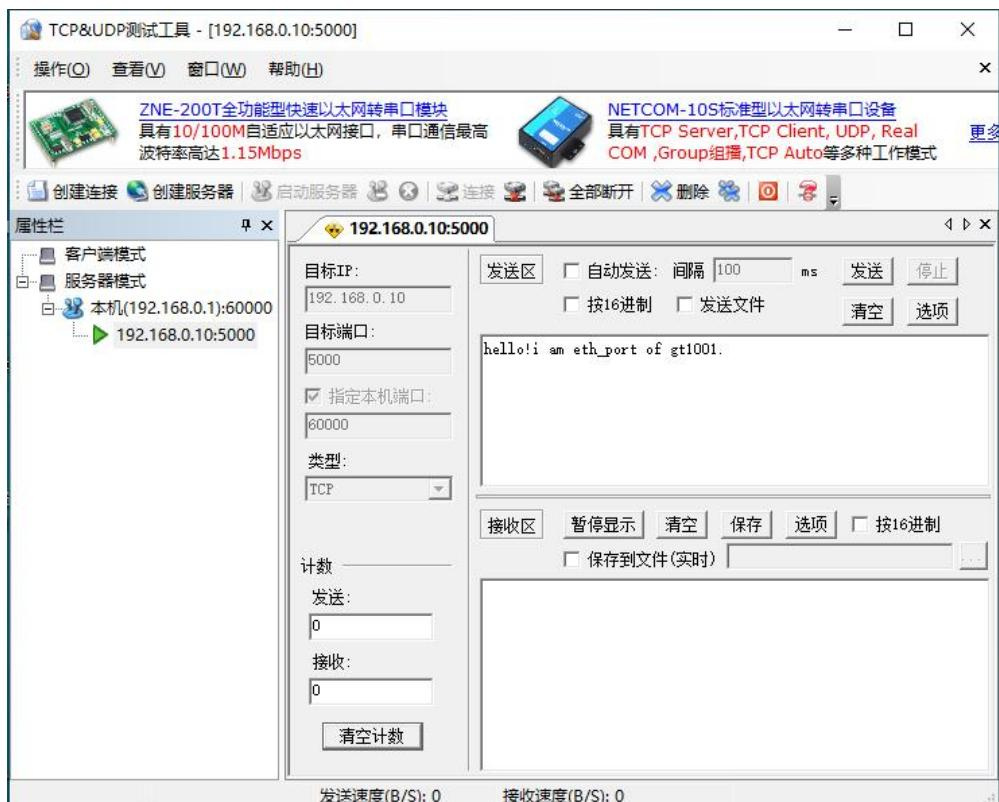

Figure 5-5 Network transmission interface.
- (3) Click Start Server to enter the transmission interface, as shown in Figure 5-5.